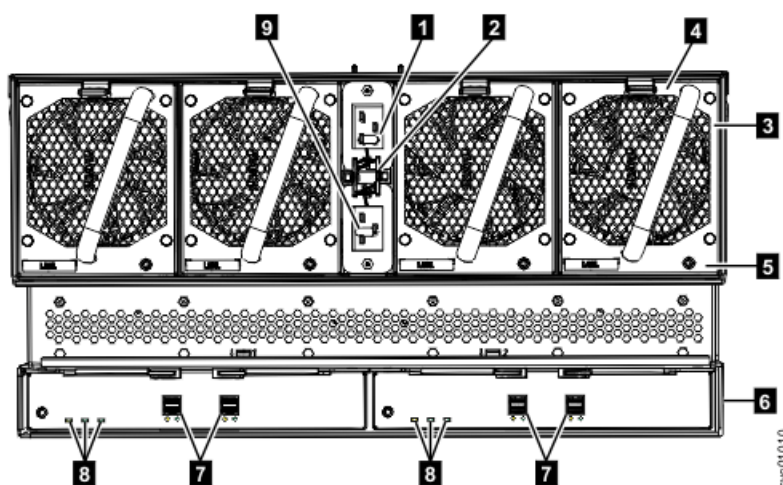
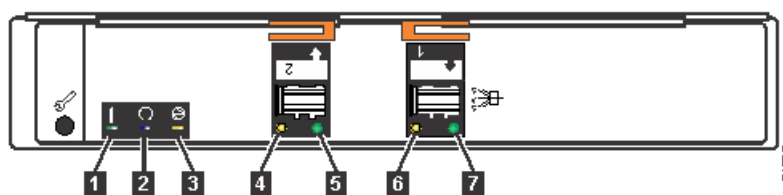

Figure 59. LEDs on the back of the expansion enclosure
Figure 60. LEDs on the back of the expansion canister
Table 19 on page 66 explains the function and status that is indicated by each of the LEDs. The power cords for each PSU are accessible from the rear of the expansion enclosure (1), as shown in Figure 59 on page 68.
Figure 59 on page 68 shows the rear view of a Model 092 expansion enclosure. LEDs on the rear of the enclosure provide information about each fan module, each expansion canister, and SAS links.
The expansion enclosure has four fans. Each fan has one LED; for example, Figure 59 on page 68 shows the location of the LED (5) for fan number four. When a fan is operating normally, the LED is not lit. If a fault is detected, the amber LED is lit.
As Figure 59 on page 68 also shows, the expansion enclosure contains two expansion canisters. Each expansion canister contains its own set of LEDs, as shown in Figure 60 on page 68. The LEDs provide status information about the expansion canister itself and the SAS connections.